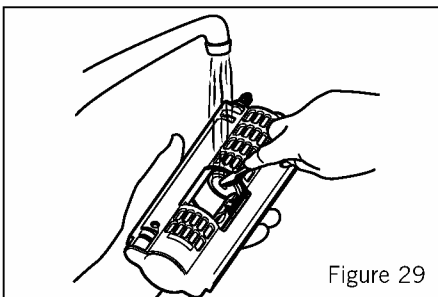

Figure 29
- Clean the brewing unit under hot running water. In particular, the stainless steel screens must be rinsed out well to remove any coffee residue. Use the cleaning brush attached to the back of the measuring spoon. See Figure 29.